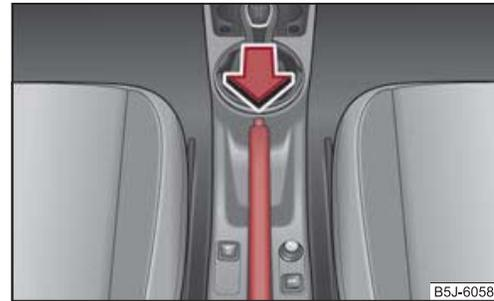

Fig. 97 Centre console: Handbrake
- Pull the handbrake lever up slightly and **at the same time** press in the locking button ⇒ fig. 97.